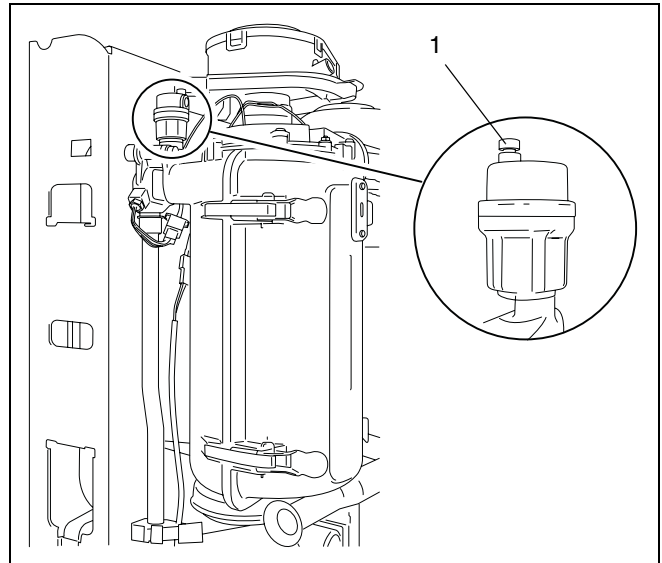

fig. 31 Automatic air vent
- Loosen the automated air vent one turn (→ fig. 31).